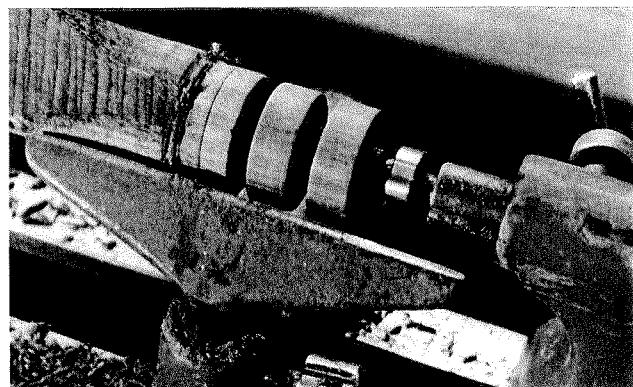

FIGURE 15-9
- 5** Take the parting tool and sink the waste to a depth of about $\frac{3}{4}$ ", so you are left with a central core at about $\frac{1}{2}$ " (Fig 15-9).